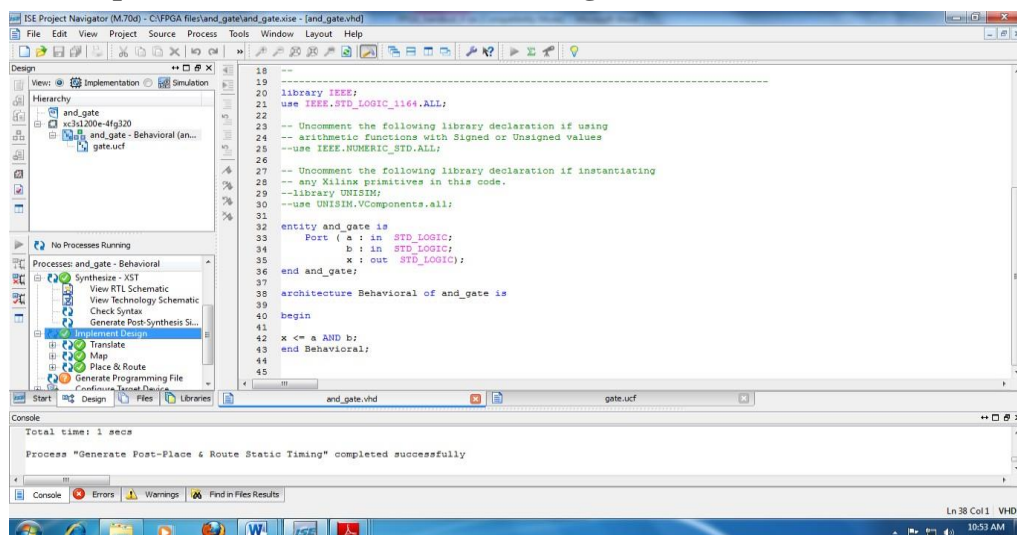

Figure 15: Implement the Design
- After assigning the pins to inputs and outputs of our design save Ucf file. Now clicking once on your top-level design in the Sources Pane, followed by a double click on “Implement Design” option in the **Processes window**. It will go through steps like **Translate, Map and Place & Route** as shown in figure 15.